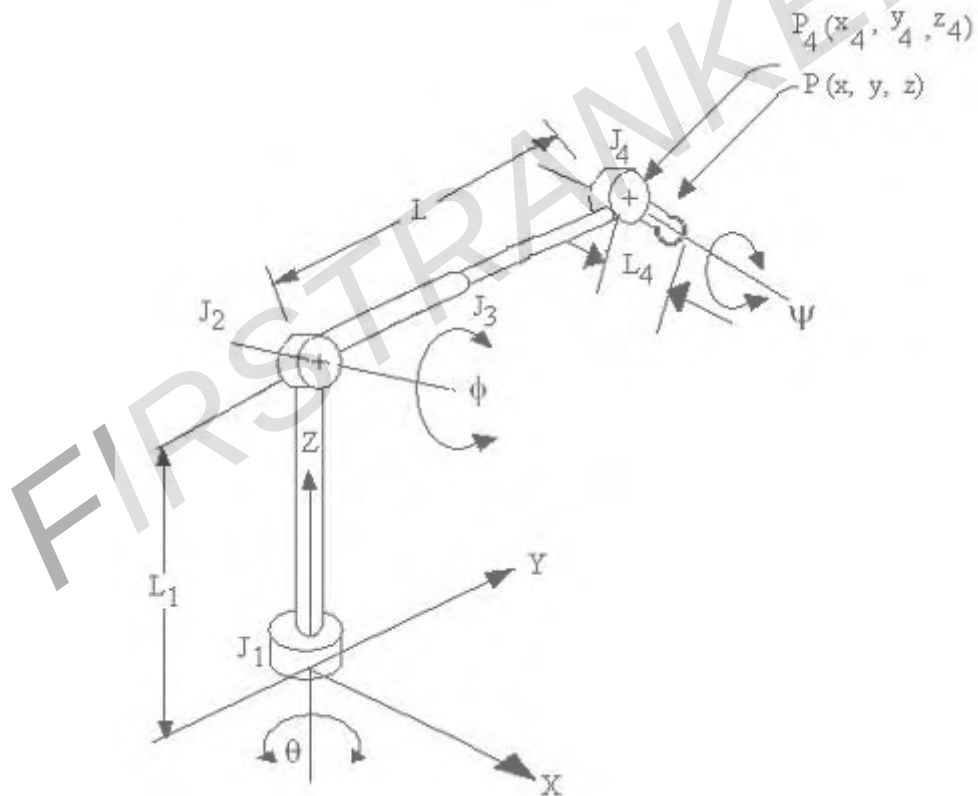

Figure 2a
1. (a) Consider the manipulator shown in figure 2a. Suppose the links and joints of the manipulator had the following settings: Length of the link $L_1=10.0\text{in}$, length of the extension link $L=15.0\text{in}$, length of link4, $L_4=3.0\text{in}$, Base angle $\theta=0^\circ$, Elevation angle $\Phi=20^\circ$, pitch angle $\varphi=34^\circ$. Determine the coordinates of the resulting point P at which the end-of-arm would be located. [8+8]